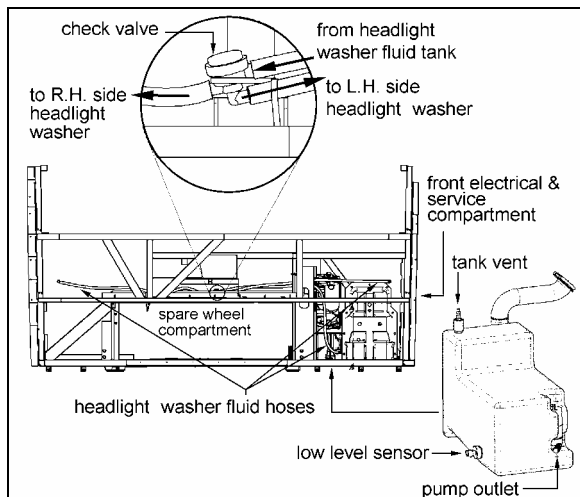

FIGURE 34: HEADLIGHT CLEANING SYSTEM 23361
Turn the multifunction lever forward to activate lower windshield wipers (item 2, fig. 34). The first position operates the wipers at low speed and the second position operates the wipers at high speed. Turning the lever backwards will operate the wipers in the intermittent mode.
To activate the upper windshield washer pump, depress and hold the rocker switch on dashboard L.H. side (item 2, fig. 34). The upper wipers will come on automatically and will shut off a few seconds after releasing the rocker switch.
The lower windshield washer pump is electrically operated and is controlled by a washer control ring on the multifunction lever (item 1, fig. 34).